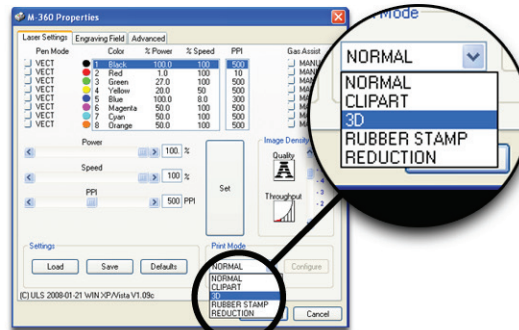

Figure 2
3. Turn on 3D mode when running a photo that’s been processed through 1-Touch Laser Photo - Figure 2.